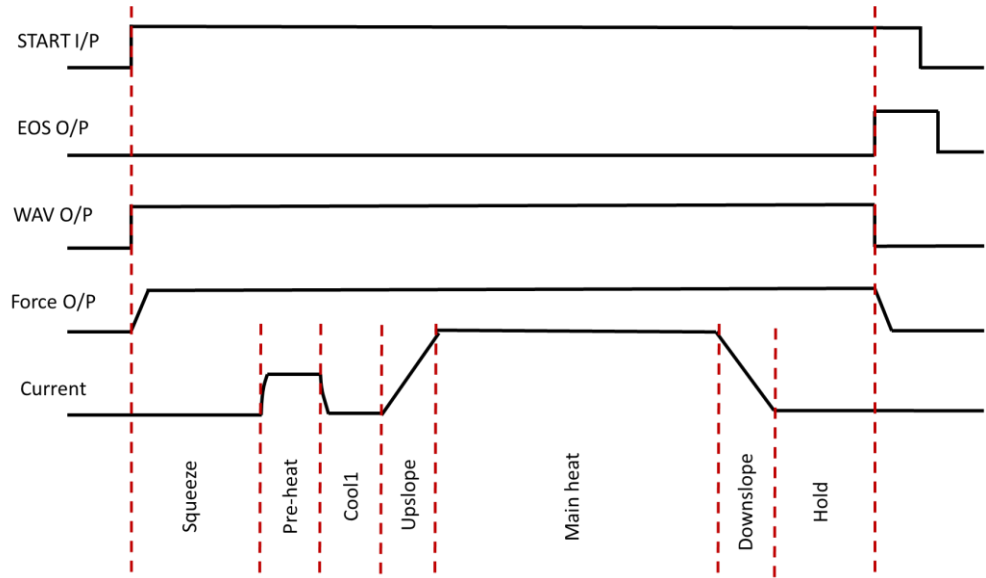

Figure 34: Simple Spot Weld Timing Diagram
The weld program (schedule) to be programmed will follow the Spot Welding timing diagram shown in Figure 34. This example is based on a machine with the configuration defined below:
22) The Spot Weld program corresponding to the spot welding timing diagram in Figure 34 has now been stored in the iPAK2v2 weld control and it is ready for use.